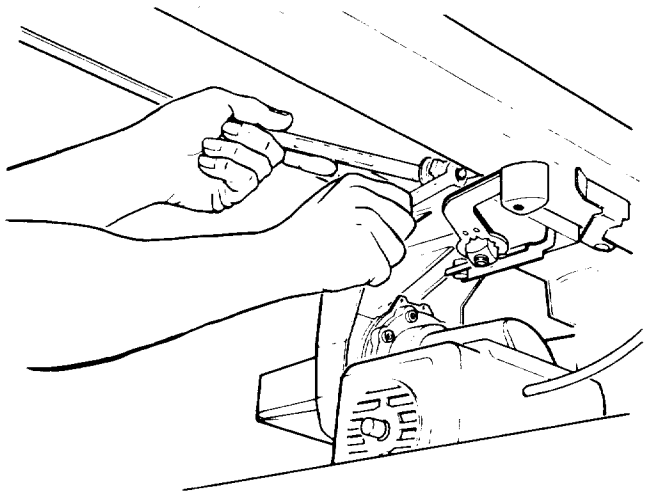

Fig. 95
6. Loosen the hex nut on the *rear carriage bearing*. Use a 9/16 inch wrench to hold the bolt and a 1/2 inch wrench to loosen the nut. (Figure 95)